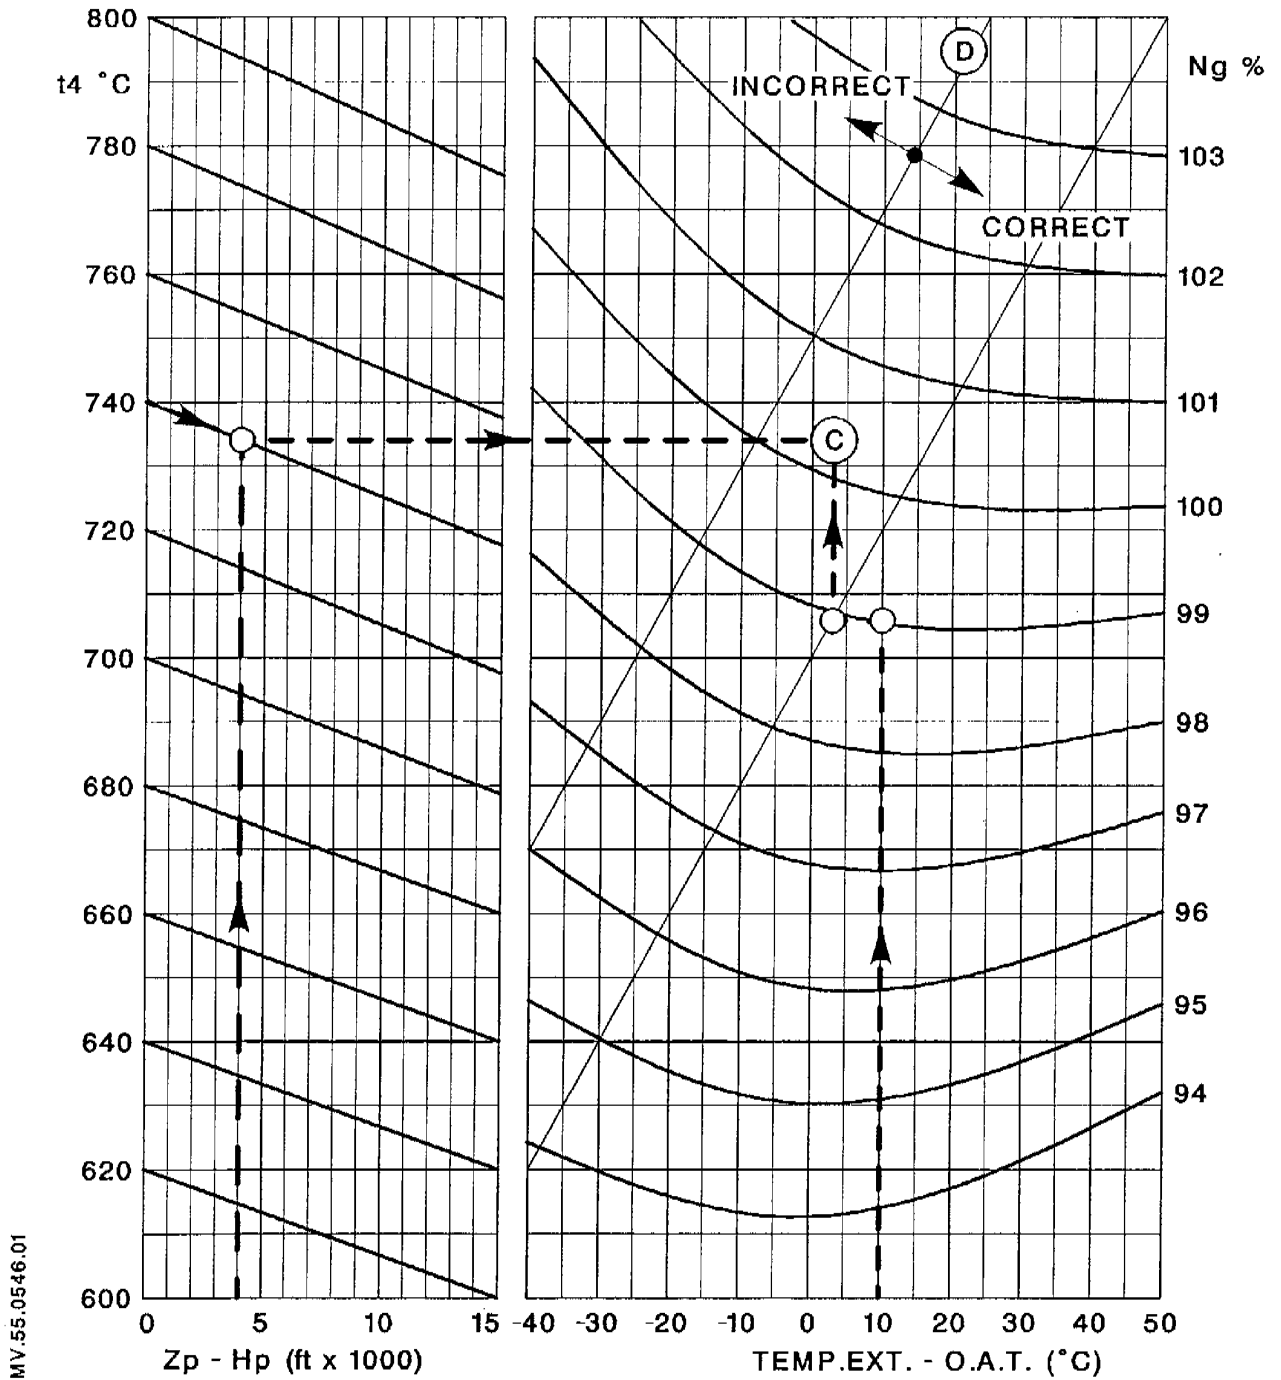

Figure 4
3.2 Thermal load check (Figure 4)
The chart of figure 4 is applicable to both LH and RH engines.